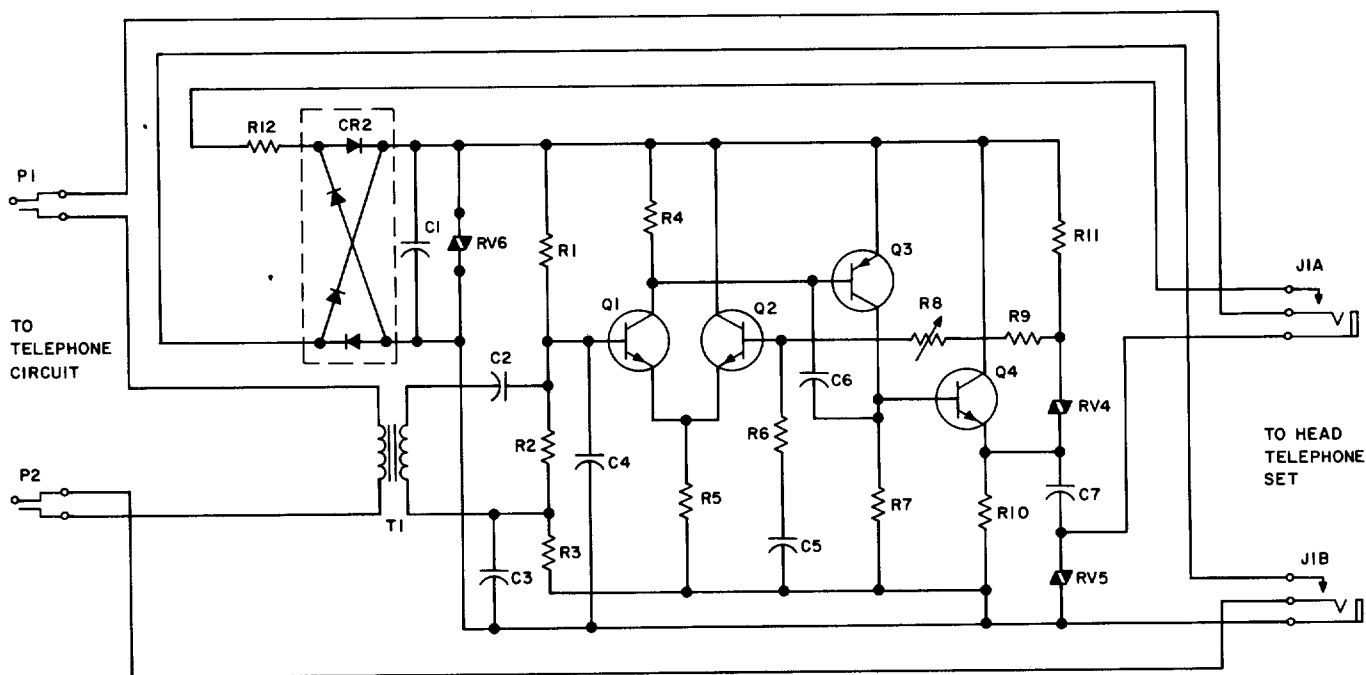

Fig. 3—292-Type Amplifier—Schematic
**2.03** Protection against acoustic shock is provided by varistors and also by the overload characteristics of the amplifier. A schematic of the amplifier is given in Fig. 3.